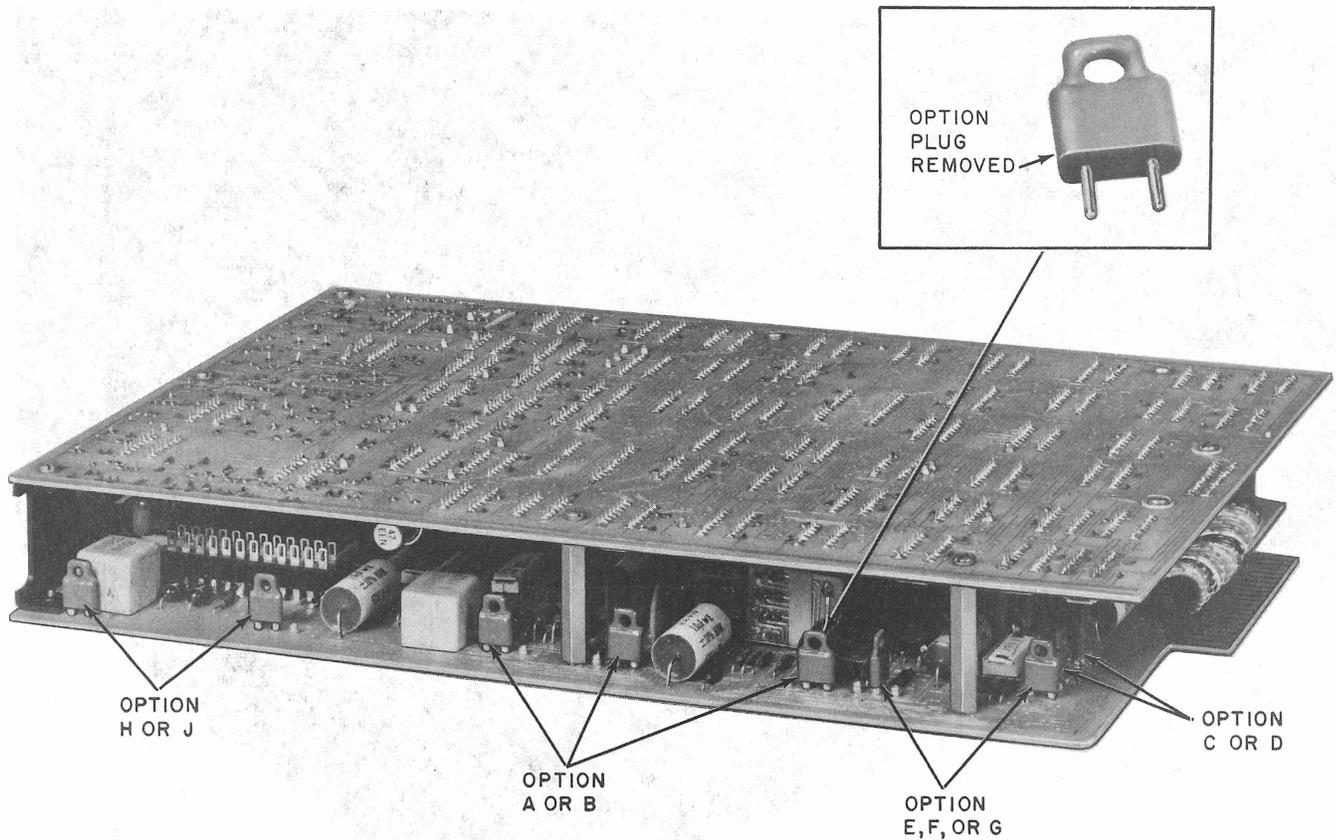

Fig. 1—Data Sets 407AR and 407BR—Option Plug Locations
3.01 Options for DS 407AR and 407BR multiple data stations vary with application. Options are installed on the JU1C or JU3B circuit packs by means of small 2-pronged plugs which fit into numbered jacks on both DS 407AR and 407BR. Additional options on DS 407BR are made by means of a 4-section switch on the circuit module (daughter board). Installation of options should be made in accordance with the service order or the circuit layout record card. There are no options associated with the data units. *Install options in DS 407AR-L1B or 407BR-L1A as applicable before installing the data sets in the data mounting.* Options which apply to DS 407AR and 407BR are illustrated in Fig. 1 and 2, and are listed in Table A.